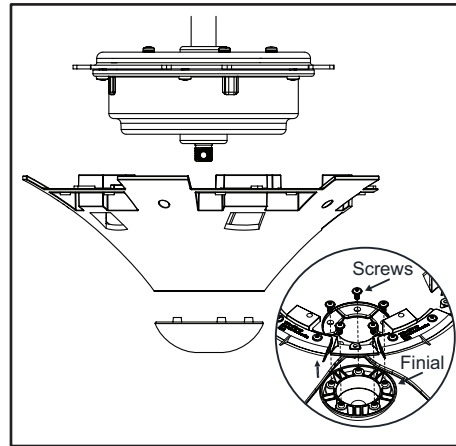

Figure 6
3. Put the flywheel upside as shown (Fig. 6). Attach the finial to the bottom of the flywheel aligning the screw holes of the finial with the holes of the blade, secure with screws and tighten. (Figure 6)